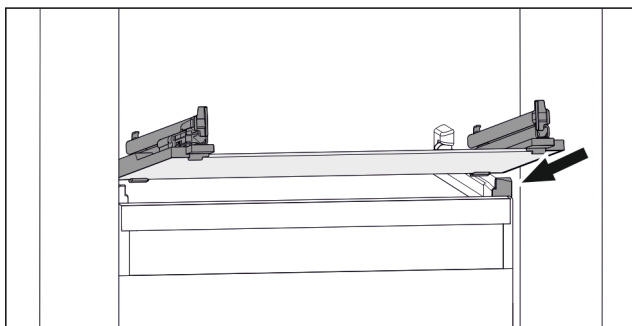

Fig. 35 Example illustration of glass shelf
- Position glass shelf at an angle behind the stoppers. (see Fig. 35)